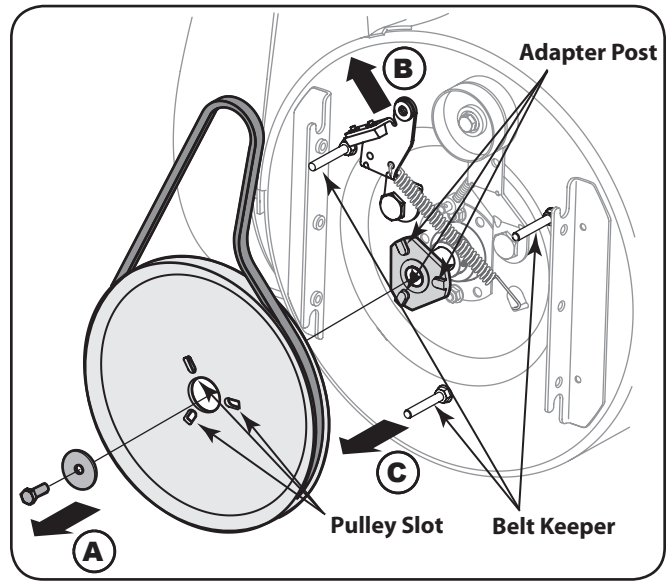

Figure 7-7
- Block the impeller with a piece of wood to prevent from spinning and use a 1/2" wrench to remove the hex screw and flat washer from the center of the auger input shaft and auger pulley adapter. Refer to Figure 7-7.
- Lift the brake bracket assembly out of the pulley groove and slide the pulley assembly off the posts of the auger pulley adapter to remove the old belt. Refer to Figure 7-7.
- Turn the pulley as necessary to align its three slots approximately with the posts of the pulley adapter, then move the brake bracket assembly away from the input shaft. While aligning the pulley slots and adapter posts, push the auger pulley fully onto the adapter. Refer to Figure 7-7.
- NOTE:** If the pulley adapter was removed with the pulley, align the splines of the pulley adapter and auger input shaft, and push the pulley and adapter onto the input shaft. Refer to Figure 7-7.